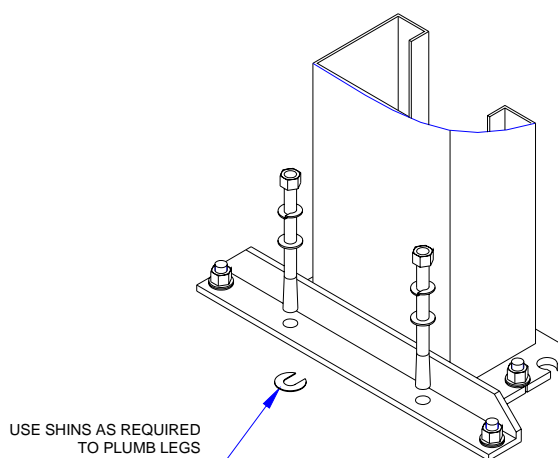

Fig. 9
- F. Using a level, plumb the mainside leg both side to side and front to back. Shim the leg as necessary next to and on both sides of the anchor bolts, figure 9. If more than **1/2" of shimming** is required, **do not** use the anchors and shims provided with the lift. Use longer anchors and fabricate larger shims from steel flat, **1/4" or 1/2" thick by 2", or more, wide.**